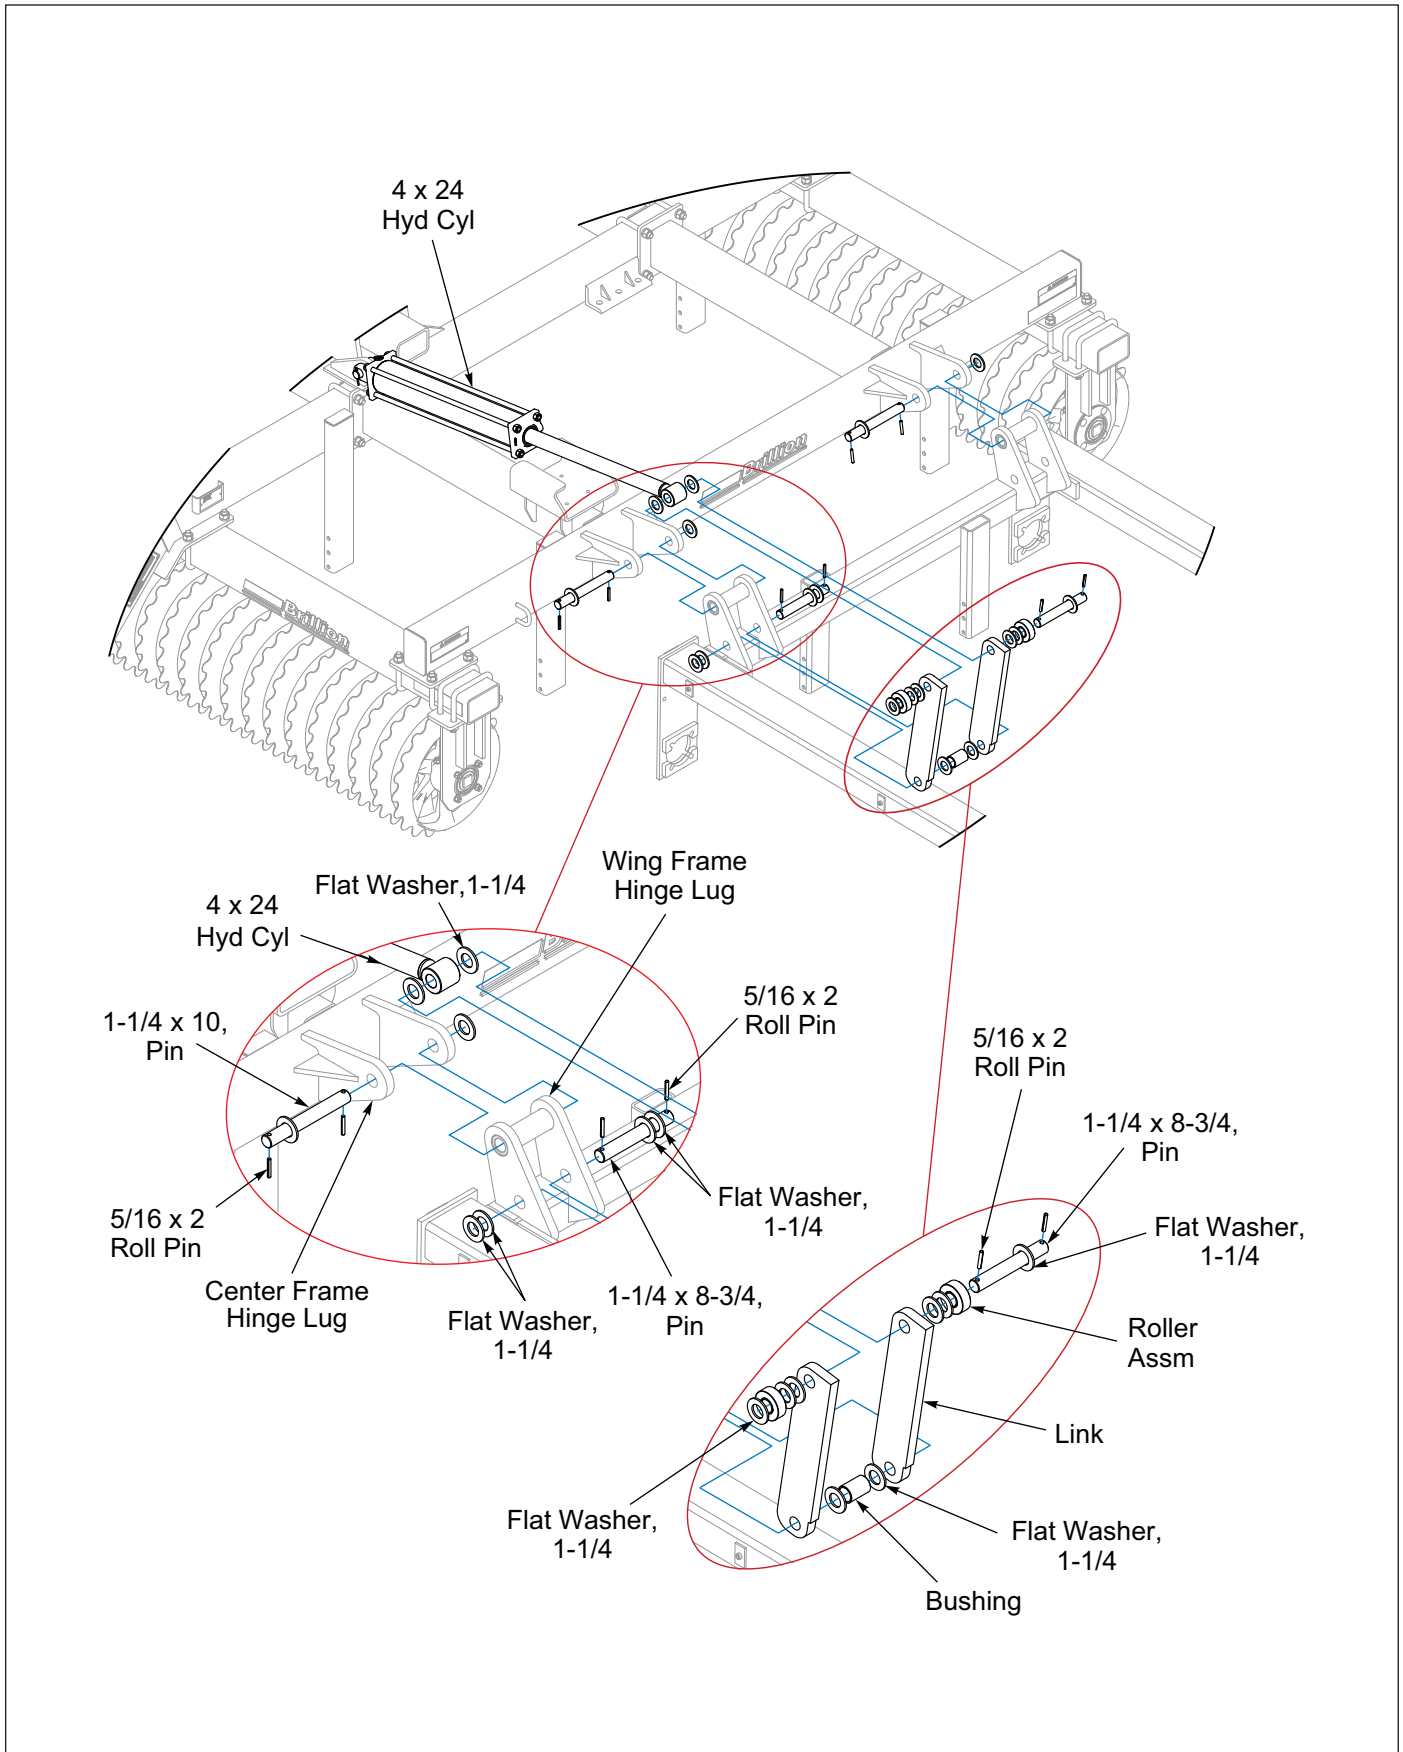

Figure 2-18: Wing Hinge and Fold Cylinder Installation
1. Attach the base end of a 4 x 24 Hydraulic Cylinder to the left and right side Center Frame Lugs with Pins provided. The rod end must face outward and ports must face the rear of the machine. **See Figure 2-18.**